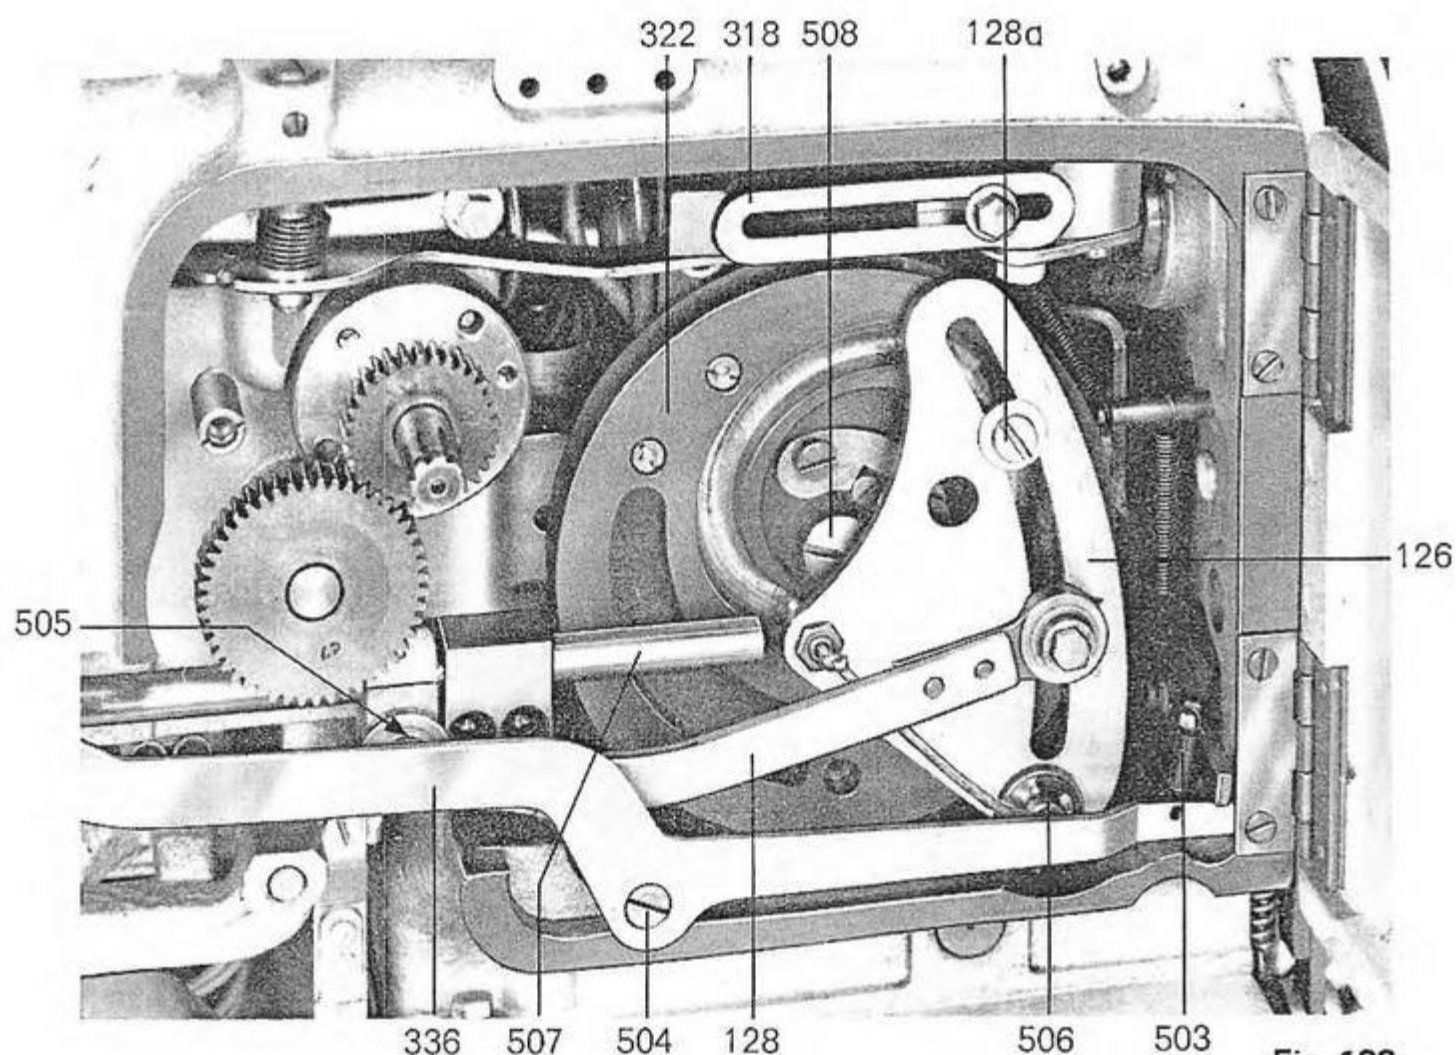

Fig. 133
3. Remove the releasing lever 336 (fig. 133). For doing that, hang out the spring 503 and turn out the screw 504.
Now, the cloth presser frame and consequently the axle 507 (fig. 133) can be advanced so far that the cam disk, after turning out the screw 508, can be removed from the machine. For doing that, advance slightly the coulisse 318.